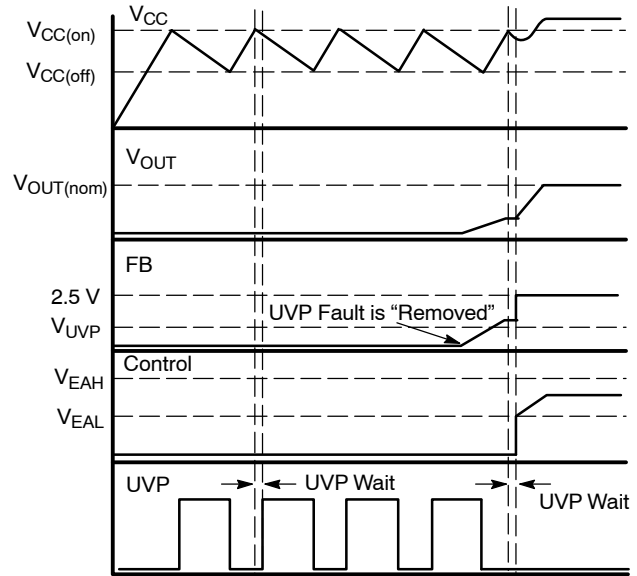

Figure 36. The NCP1606's Startup Sequence with and without a UVP Fault
Furthermore, the NCP1606 incorporates a novel startup sequence which ensures that undervoltage conditions are always detected at startup. It accomplishes this by waiting approximately 180  $\mu$ s after  $V_{CC}$  reaches  $V_{CC(on)}$  before enabling the error amplifier (Figure 36). During this wait time, it looks to see if the feedback (FB) voltage is greater than the UVP threshold. If not, then the controller enters a UVP fault and leaves the error amplifier disabled. However, if the FB pin voltage increases and exceeds the UVP level, then the controller will start the application up normally.